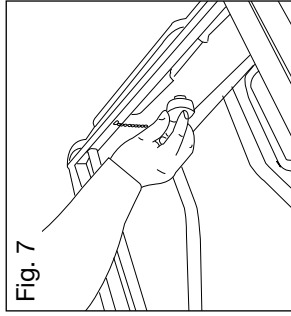

Fig. 7
3. Locate the water plug on the frame and insert the water plug into the drain hole (Fig. 7).